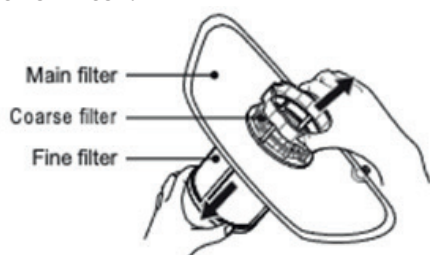

Figure 25: The filter assembly once removed from the dishwasher cabinet base.
Step 2: With the filter assembly removed from the dishwasher, the fine filter can be pulled off the bottom of the filter assembly (refer to figure 25 below). This fine filter is covered by a fine mesh. Rinse this under running water from your tap and wipe any residual food residue off the filter.